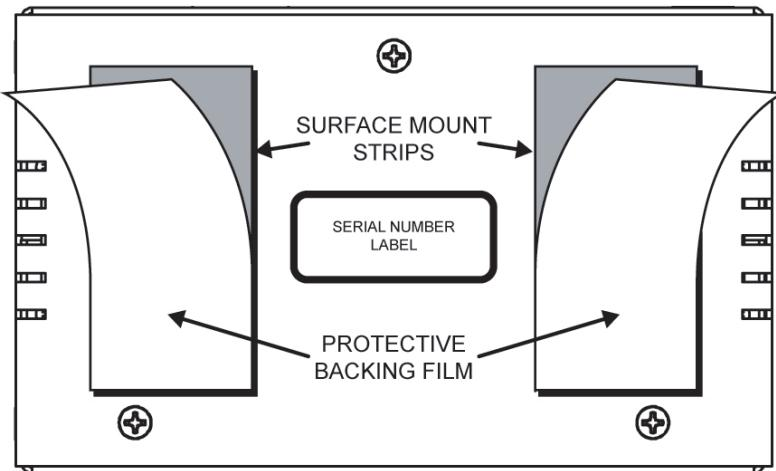

Figure 4.1 Surface Mount Installation Option
- Adhere the **Surface Mount Strips** to the bottom side of the chassis **Figure 4.1**.